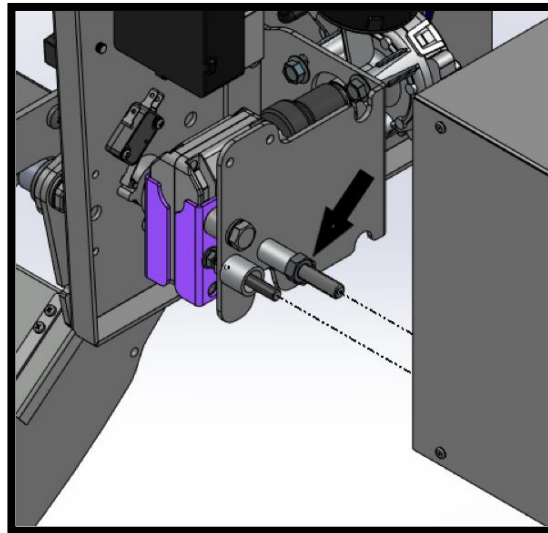
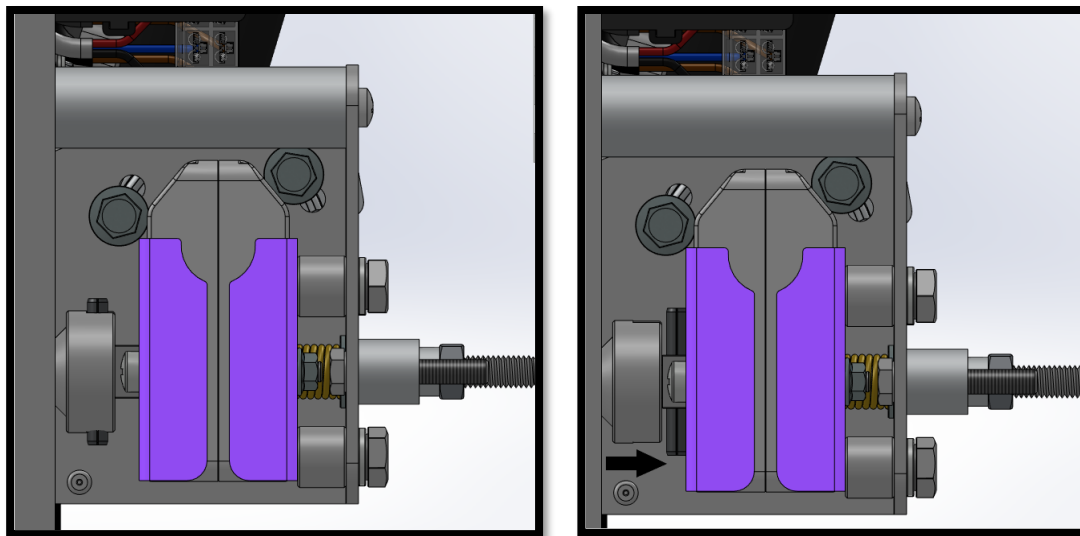

Figure 4 – M8 nut that keeps motor engaged.
Figure 5 – Motor engaged on the left and disengaged on the right.
3. Tighten the M8 nut, highlighted in figure 4, until the motor is disengaged from the coupler (figure 5);